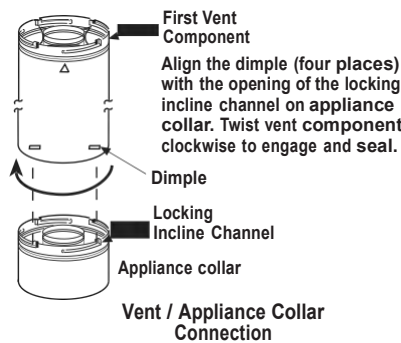

Figure 21
-Secure Vent SV4.5 direct vent system components are unitized concentric pipe components featuring positive twist lock connections (see **Figures 21 and 22**).
To attach a vent component to the appliance collar, align the dimpled end over the collar, adjusting the radial alignment until the four locking dimples are aligned with the inlet of the four inclined channels on the collar (refer to **Figure 21**). Push the vent component against the collar until it fully engages, then twist the component clockwise, running the dimples down and along the incline channels until they seat at the end of the channels. The unitized design of the **Secure Vent** components will engage and seal both the inner and outer pipe without the need for sealant or screws. If desired a #6 x 1/2" screw may be used at the joint, but it is not required as the pipe will securely lock when twisted.